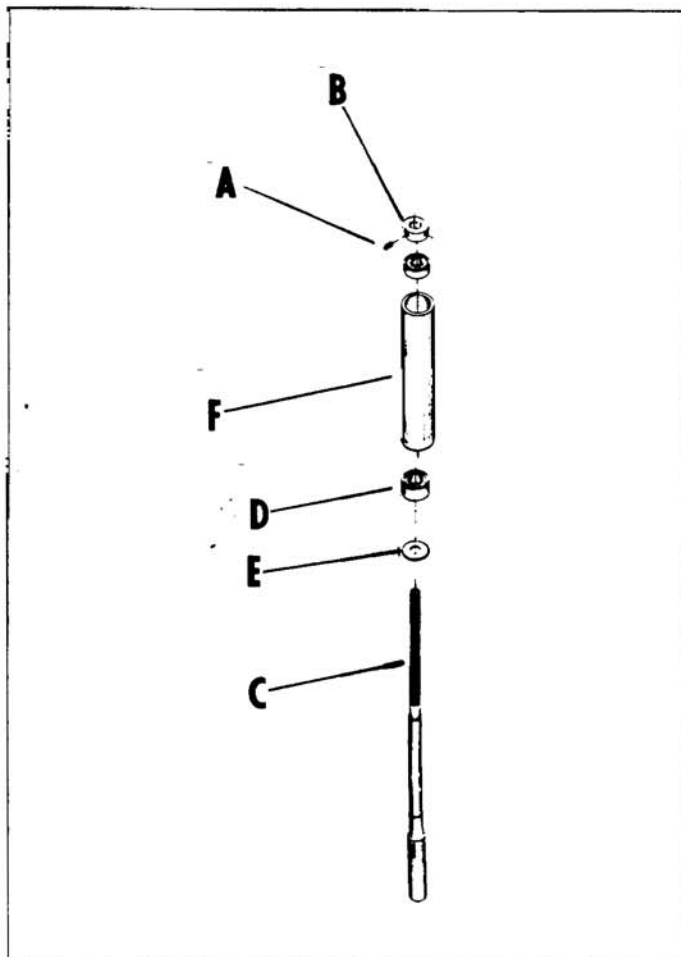

Fig. 9
6. Loosen the two set screws (A) in collar (B) Fig. 9 , and remove collar.
7. With a hard rubber mallet, tap spline end of spindle (C). The spindle (C) with bearing (D) and flinger collar (E) will come out of the quill (F) Fig. 9 .
8. Using an arbor press, remove bearing (D) and flinger collar (E) from spindle (C) Fig. 9 .
9. To replace spindle, reverse above procedure making sure the bearing (D) and flinger collar (E) have been pressed tight against the shoulder on the spindle (C) Fig. 9 , before replacing spindle in quill.
10. After replacing collar with set screws (A & B) Fig. 9 , on the spindle, be sure there is not end play between spindle and quill. Play is eliminated by seating both bearings in quill.